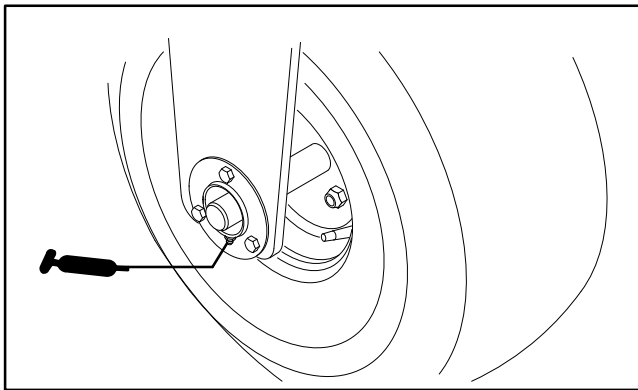
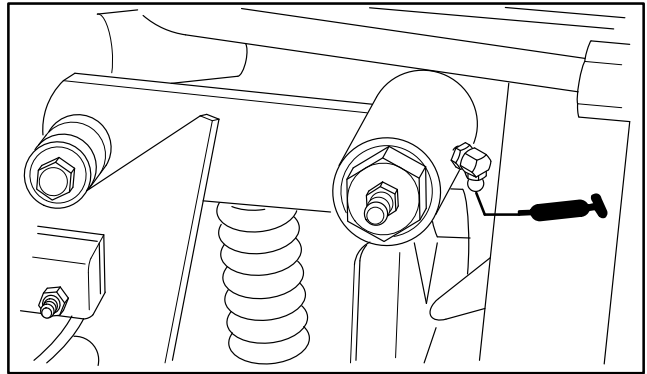
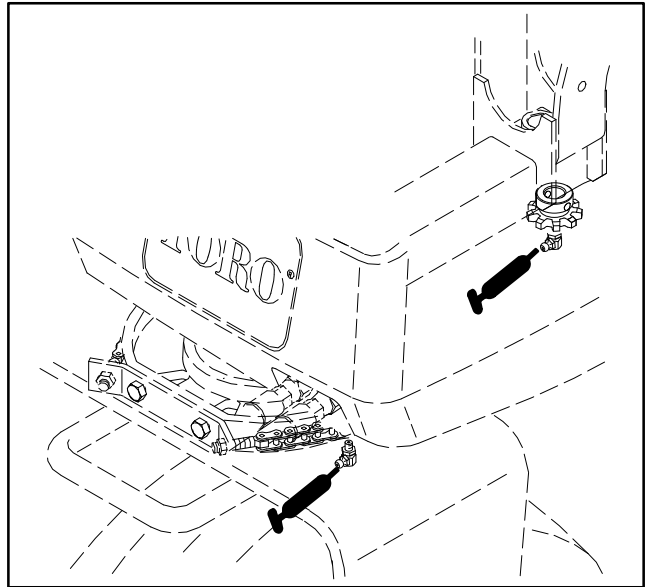

Figure 14
Figure 15
Figure 16
The bearings and bushings that must be lubricated are: front wheel bearing (Fig. 14), traction control linkage (Fig. 15) steering shaft (2) (Fig. 16) and steering chain sprocket shaft (Fig. 16).
Note: To gain access to grease fitting on traction control linkage (Fig. 15), remove (3) screws securing side panel to right side of machine and remove panel.